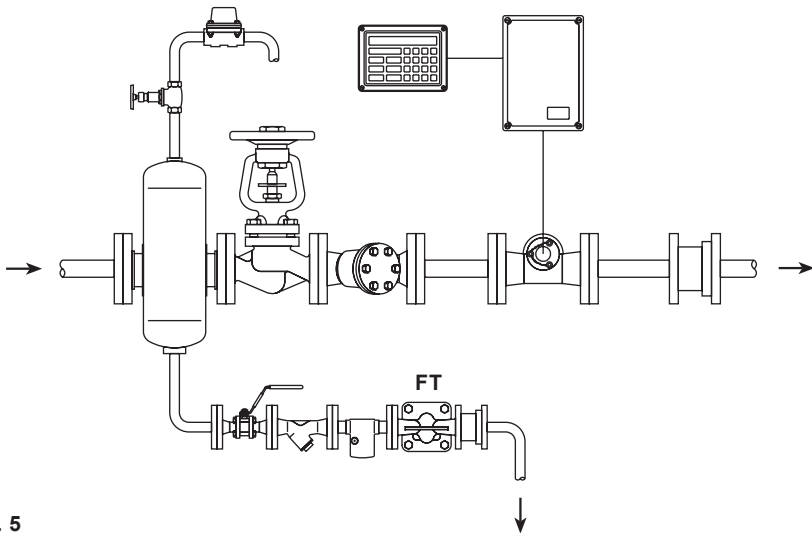

Fig. 5
- 3.5** The trap should be fitted below the outlet of the steam system, with a small drop leg immediately preceding the trap, typically 150 mm (6") see Figure 5. If no drop leg is allowed for then it may be possible (under low load conditions) for steam to flow over the condensate in the bottom of the pipe and reach the trap.